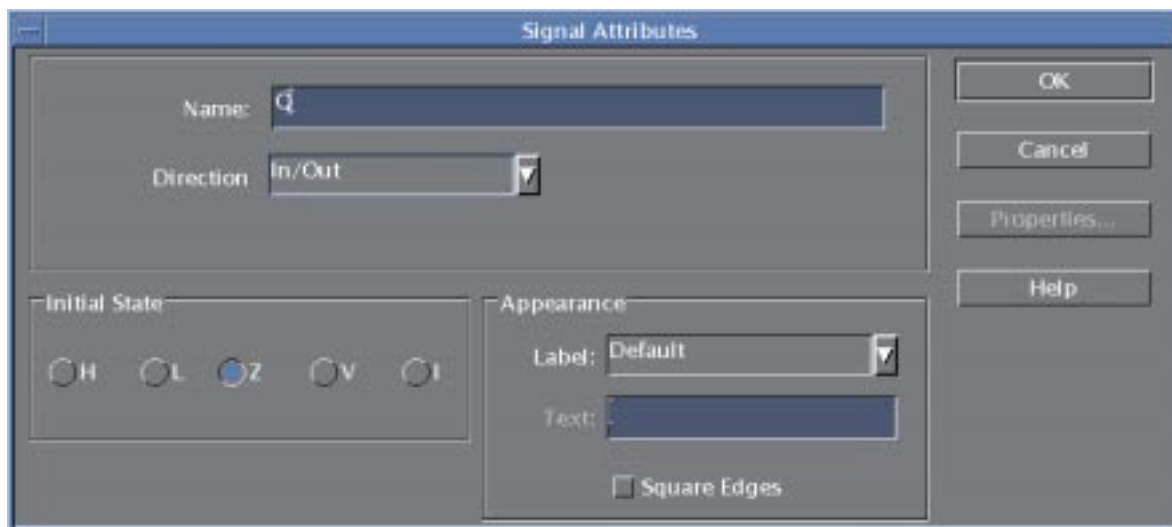

Figure 8. Signal Attributes Dialog Box
1. Click the **SIGNAL** button in the top, left corner of the diagram window (see **Figure 7**). TimingDesigner displays a dialog box (shown completed in **Figure 8**).